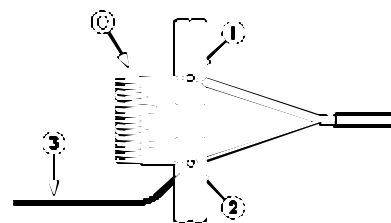

Figure 3
15. Any length of cable having a characteristic impedance of 50 to 53 ohms may be used to feed the HF2V. Refer to figure 3 for the procedure to be followed in preparing the cable for attachment to the antenna. Note that the center conductor of the coax goes to the bottom of base section (B) and the outer (braid) conductor goes to mounting post w/insulator (A). Place a #8 washer over the threaded end of each feedline terminal before attaching the feedline. When the feedline is attached, place another #8 washer over each feedline terminal. Do not attach lock washers and hex nuts at this time.
16. Place base matching coil (Q) across the feedline terminals as shown in figure 3. Place #8 washers over each feedline terminal. Use #8 lock washers and #8 hex nuts to secure the feedline and base matching coil (Q) to the feedline terminals. The "tail" at the lower end of the base matching coil (Q) may be connected to a ground rod or stake a short distance away.